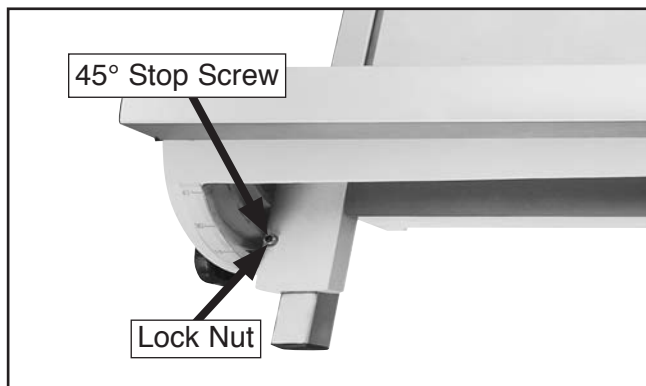

Figure 85. Adjusting fence 45° outward.
2. Loosen the lock nut on the 45° fence stop screw (see **Figure 85**).